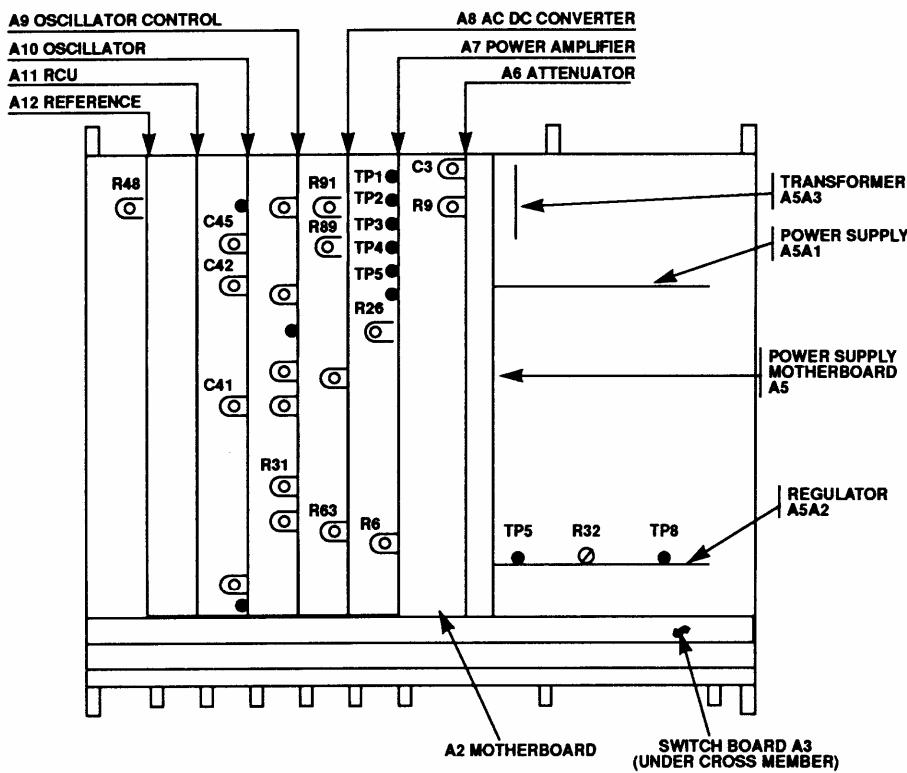

Figure 1. Ac calibrator - adjustment locations.
b. Adjustments(1) Connect true rms voltmeter to **QUADRATURE OUT** (rear of TI).(2) Set true rms voltmeter **FUNCTION** pushbutton to **FILT OUT**.(3) Connect frequency counter to **COUNTER OUT** (rear of TI).
(4) Set **FREQUENCY RANGE-Hz** switch to **1 M** and **FREQUENCY** dials to **1.0520 MHz**.
(5) If frequency counter does not indicate between 1.0420 and 1.0620 MHz, adjust A10C41 and A10C45 (fig. 1) in equal amounts in the same direction until frequency counter indicates 1.0520 MHz (R).
(6) If true rms voltmeter does not indicate between 9 and 11 V, adjust A10C41 and A10C45 (fig. 1) in equal amounts in opposite directions until true rms voltmeter indicates 10 V (R).
(7) Set **FREQUENCY RANGE-Hz** switch to **100 K** and **FREQUENCY** dials to **80.00 kHz**.
(8) If frequency counter does not indicate between 79.6 and 80.4 kHz, adjust A10C42 (fig. 1) for a counter indication of 80 kHz (R).
- (1) Connect multimeter between A7TP4 (LO) and A7TP5 (HI) (fig. 1) of the power amplifier board.
(2) Set **FREQUENCY RANGE-Hz** switch to **100 K** and **FREQUENCY** dials to **100.00 kHz**.
(3) Set **VOLTAGE RANGE** switch to **100 V** and **VOLTAGE** dials to **10.0000 V**.
(4) If multimeter does not indicate between 0.34 and 0.36 V dc, adjust A7R26 (fig. 1) for multimeter indication of 0.35 V dc (R).
(5) Set **FREQUENCY** dials to **50.00 kHz**.
(6) Measure distortion. Adjust A9R31 (fig. 1) for minimum distortion (R).
(7) Connect multimeter to TI **OUTPUT** and **SENSE** terminals, using two cables.
(8) Set **FREQUENCY RANGE-Hz** switch to **1 kHz** and **FREQUENCY** dials to **1.0 K**.
(9) Set **VOLTAGE RANGE** switch to **10 V**, **VOLTAGE** dials to **10.00000 V** and **SENSE** switch to **EXT**.
(10) If multimeter does not indicate between $\pm 100 \mu\text{V}$ dc, adjust A7R6 (fig. 1) for a within-tolerance indication (R).
b. Adjustments (figure 1)